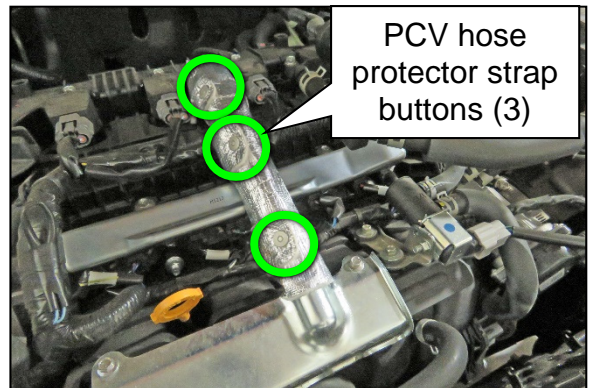

Figure 5
- Button the three (3) straps, as shown in Figure 5.